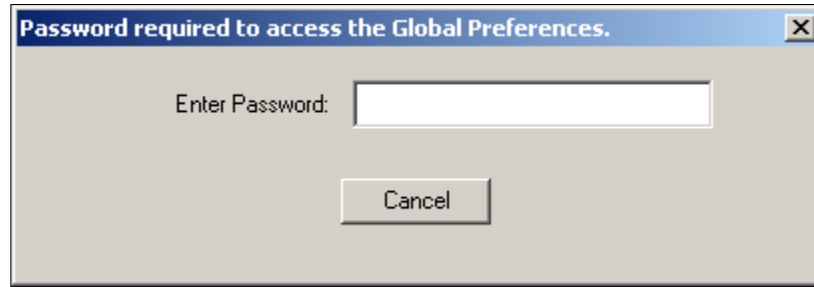

Figure 22: Preferences – Password Protection
- **Engineer Password** – By checking this and entering a password you can control access to certain menus in the *KIC 2000* software. See Figure 22.
- *Global Preferences* button on the main screen. See Figure 22.